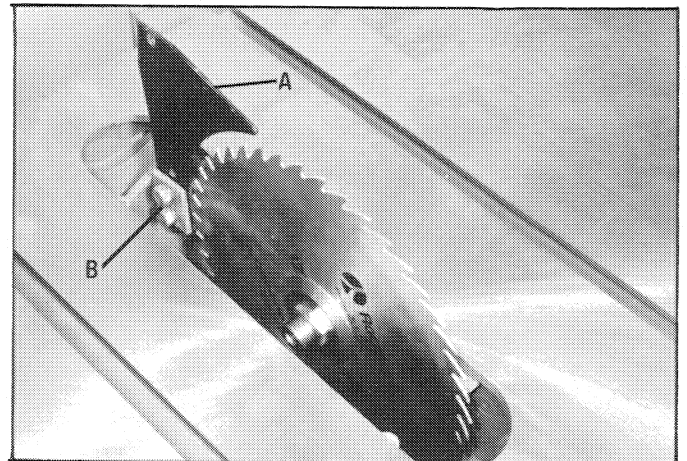

Fig. 25
1. The splitter (A) is to be assembled to the bracket (B), as shown in Fig. 25.